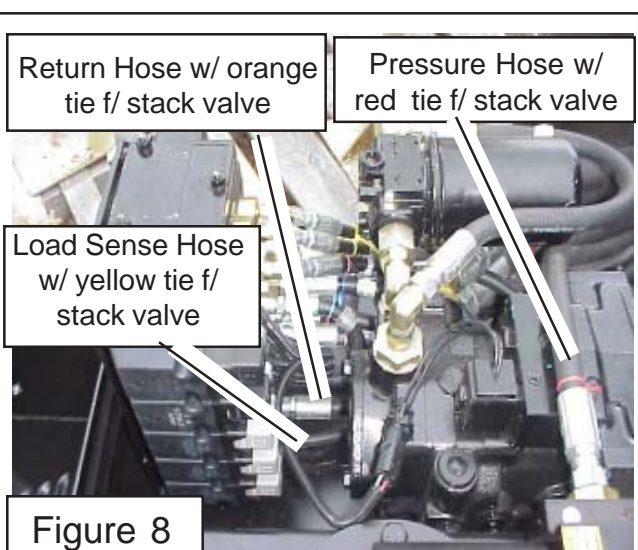

Figure 8
4. Hose going to front of tractor. The hoses going to the front of the tractor from the stack valve will hang in the front and not be connected until the tank and valve have been installed. The hose from pressure port (red tie) will connect to the inlet side of the small pressure filter mounted to the left of the pump on the tank, the hose from the outlet side of this small filter will connect to the "P" Port of the control valve. The return port hose (orange tie) from the stack valve will connect to direct to the "T" port of the control valve. The Load Sense Port hose (yellow tie) which is the smaller of the three hose from the stack valve will connect direct to the control valve, there is a small elbow on the side of the valve next to the "T" port for the load sense hose to connect to. (See Figure 8)